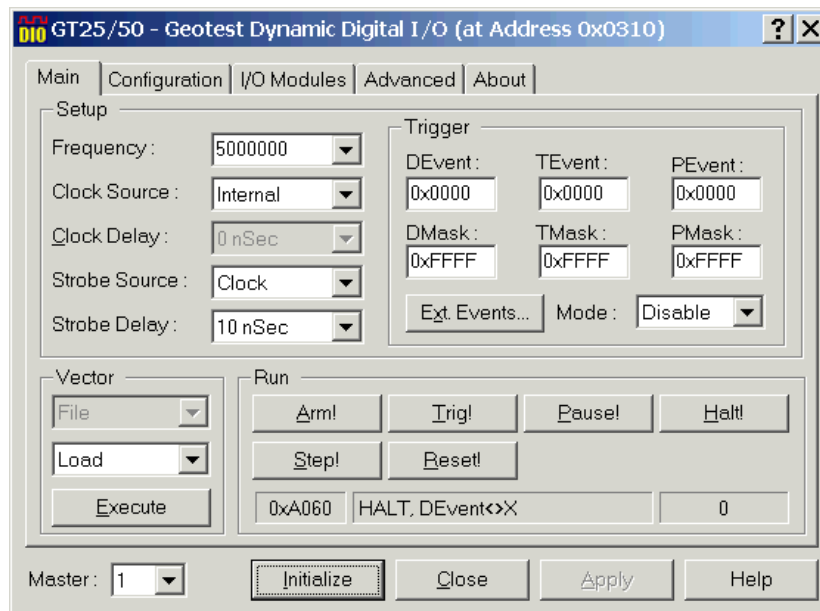

Figure 3-9: GT-DIO Panel Window
The GT-DIO panel window opens (see Figure 3-9).
4. Click the Close button (X) to close the DIO Configuration window.
5. Click **Initialize!** to accept the configuration (see Figure 3-9).